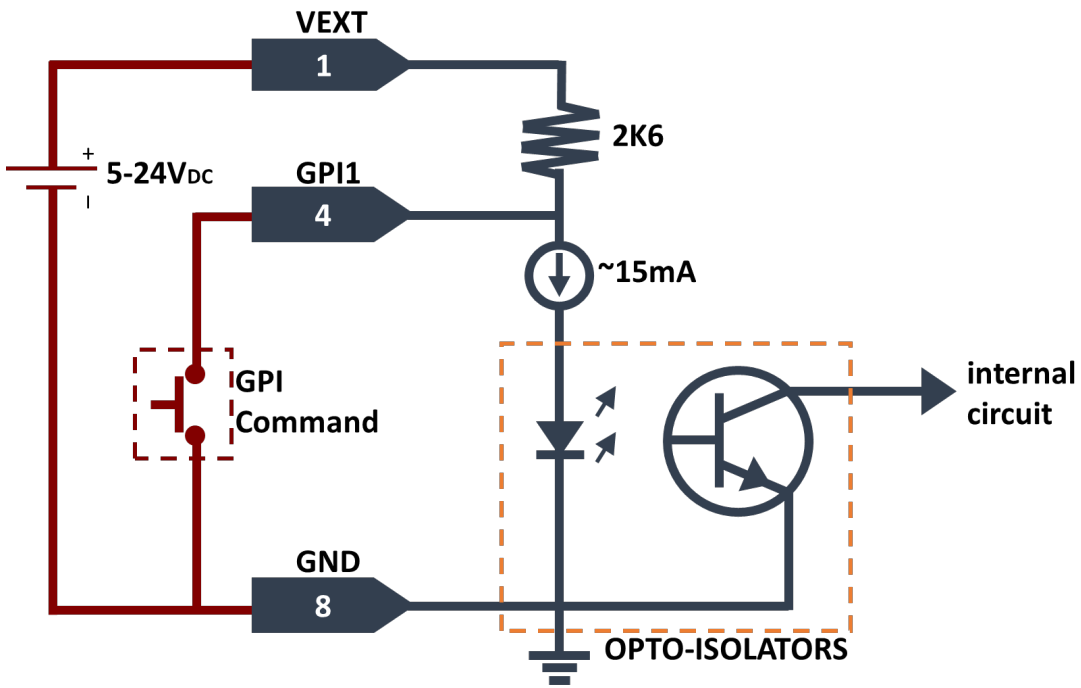
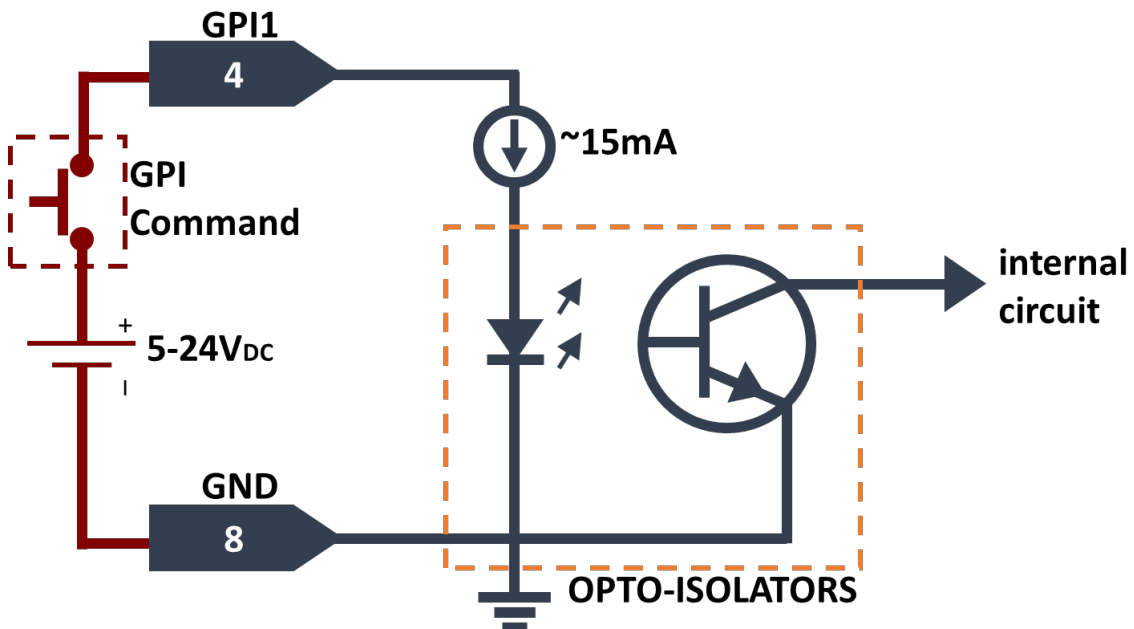

Figure 4-5 : Powering the GPI Opto-Isolators from an External Power Supply
Figure 4-6 : Powering the GPI Opto-Isolators from an External Signal
- **Individual Function:** The four GPIs can trigger up to four specific routes each. Once the routes per GPI are set in the Web page (Section 6.8.1) or VistaLINK® (Section 7.8.1), each GPI can be triggered by any of the options depicted in Figure 4-4, Figure 4-5 and Figure 4-6.
Alternatively, an external voltage source may be applied as shown in Figure 4-5. The VEXT voltage must be greater than the voltage supplied to the GPI by at least +5V.
Another option is to power the GPI pin with a signal source as it can be seen in Figure 4-6.